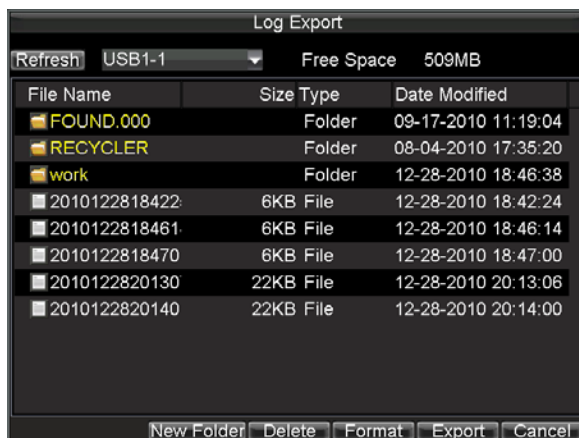

Figure 17. Log Search Export Menu
6. Log files can also be exported onto a USB device. To export a log file, connect a USB device to the DVR, select the log file to export and click the *Export* button to enter the Log Search Export menu, shown below in Figure 17. Click the *Export* button to export log onto USB device. The exported file